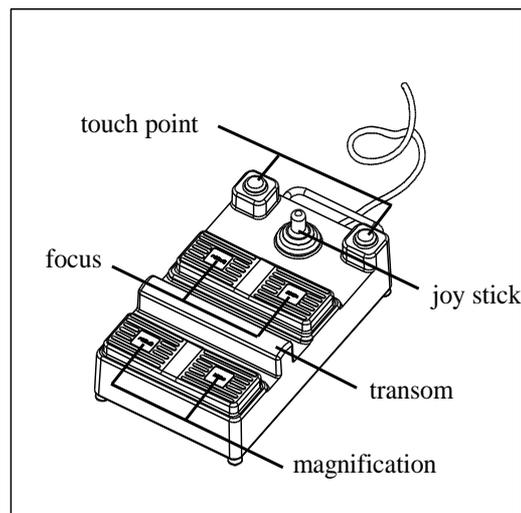

Fig.9
5. During the operation, if it needs to change the operation position so that it could be seen through the microscope, just adjust the X-Y coordinator's horizontal position. Manipulate the Direction stick on the foot switch with the foot, and the microscope's vision field may move relatively according to the Stick's forward, backward, right, left forward, right forward, left backward, right backward movements. The directions of vision field movement and Stick's movement are the same (indicated in fig.9).